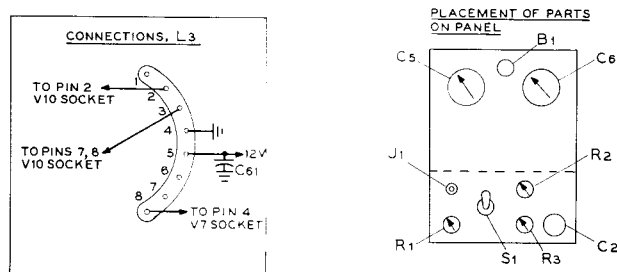

Figure 41
- L-3—Original oscillator coil, see figure 41